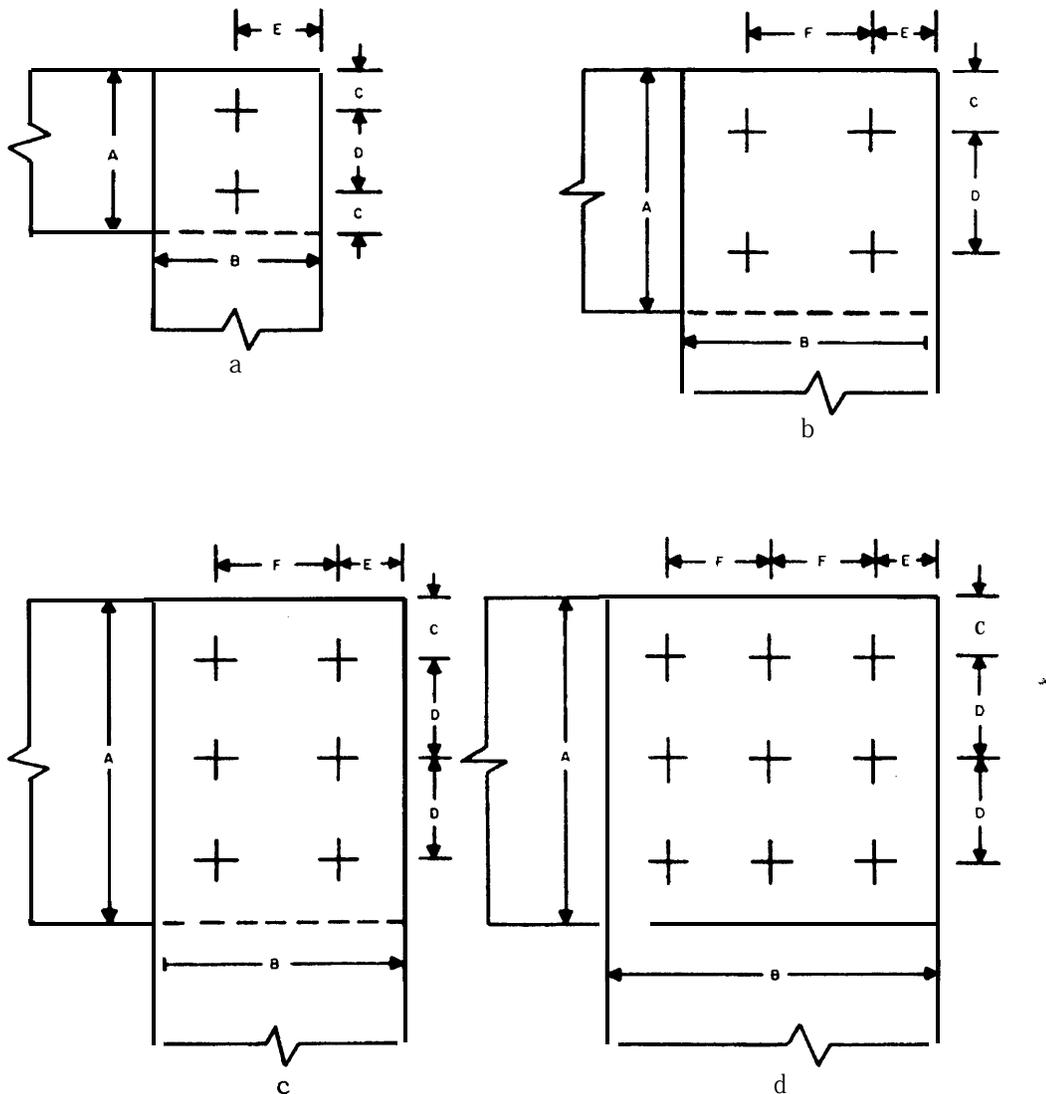

Figure 1. Bus Bar Configurations and Bolt Hole Locations.
2.01 Refer to Table 1 for hole sizes and key to dimensions shown in Figure 1.
Table 1. Fastening Dimensions for Figure 1.